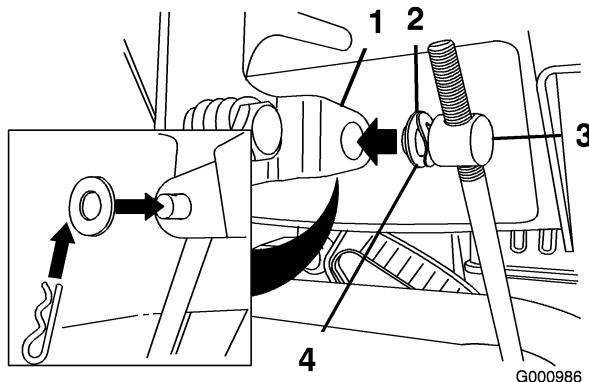

Figure 6
- Remove the hairpin cotter and the outer washer from the trunnion on the upper end of the speed control rod (Figure 6).
Note: To make installation easier, leave the wave washer and the flat washer on the trunnion (Figure 6).
- Lift up on the speed control rod and insert the trunnion into the hole in the speed selector lever (Figure 6).